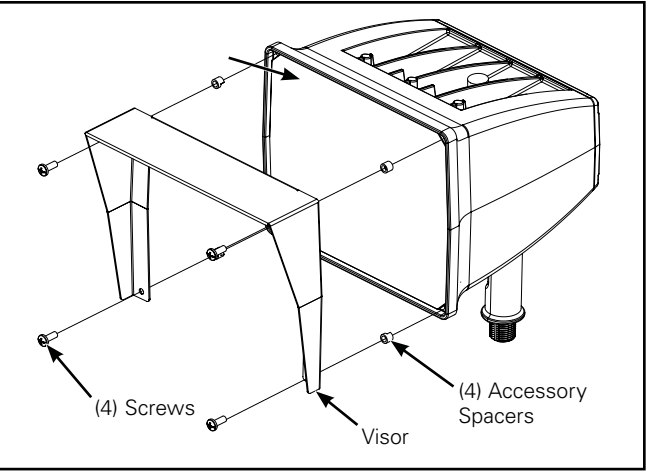

Figure 9.
4. Align visor on top of accessory spacers matching the (4) existing holes (Figure 9.)
5. Add (4) 10-24 Philips head screws to the face of the fixture to tighten the wire guard.